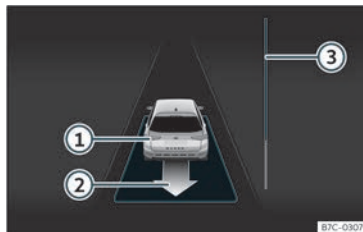

Fig. 182 On the instrument panel display: exit a parallel parking space.
The progress bar »» Fig. 182 ③ indicates the distance to cover »» page 257 .